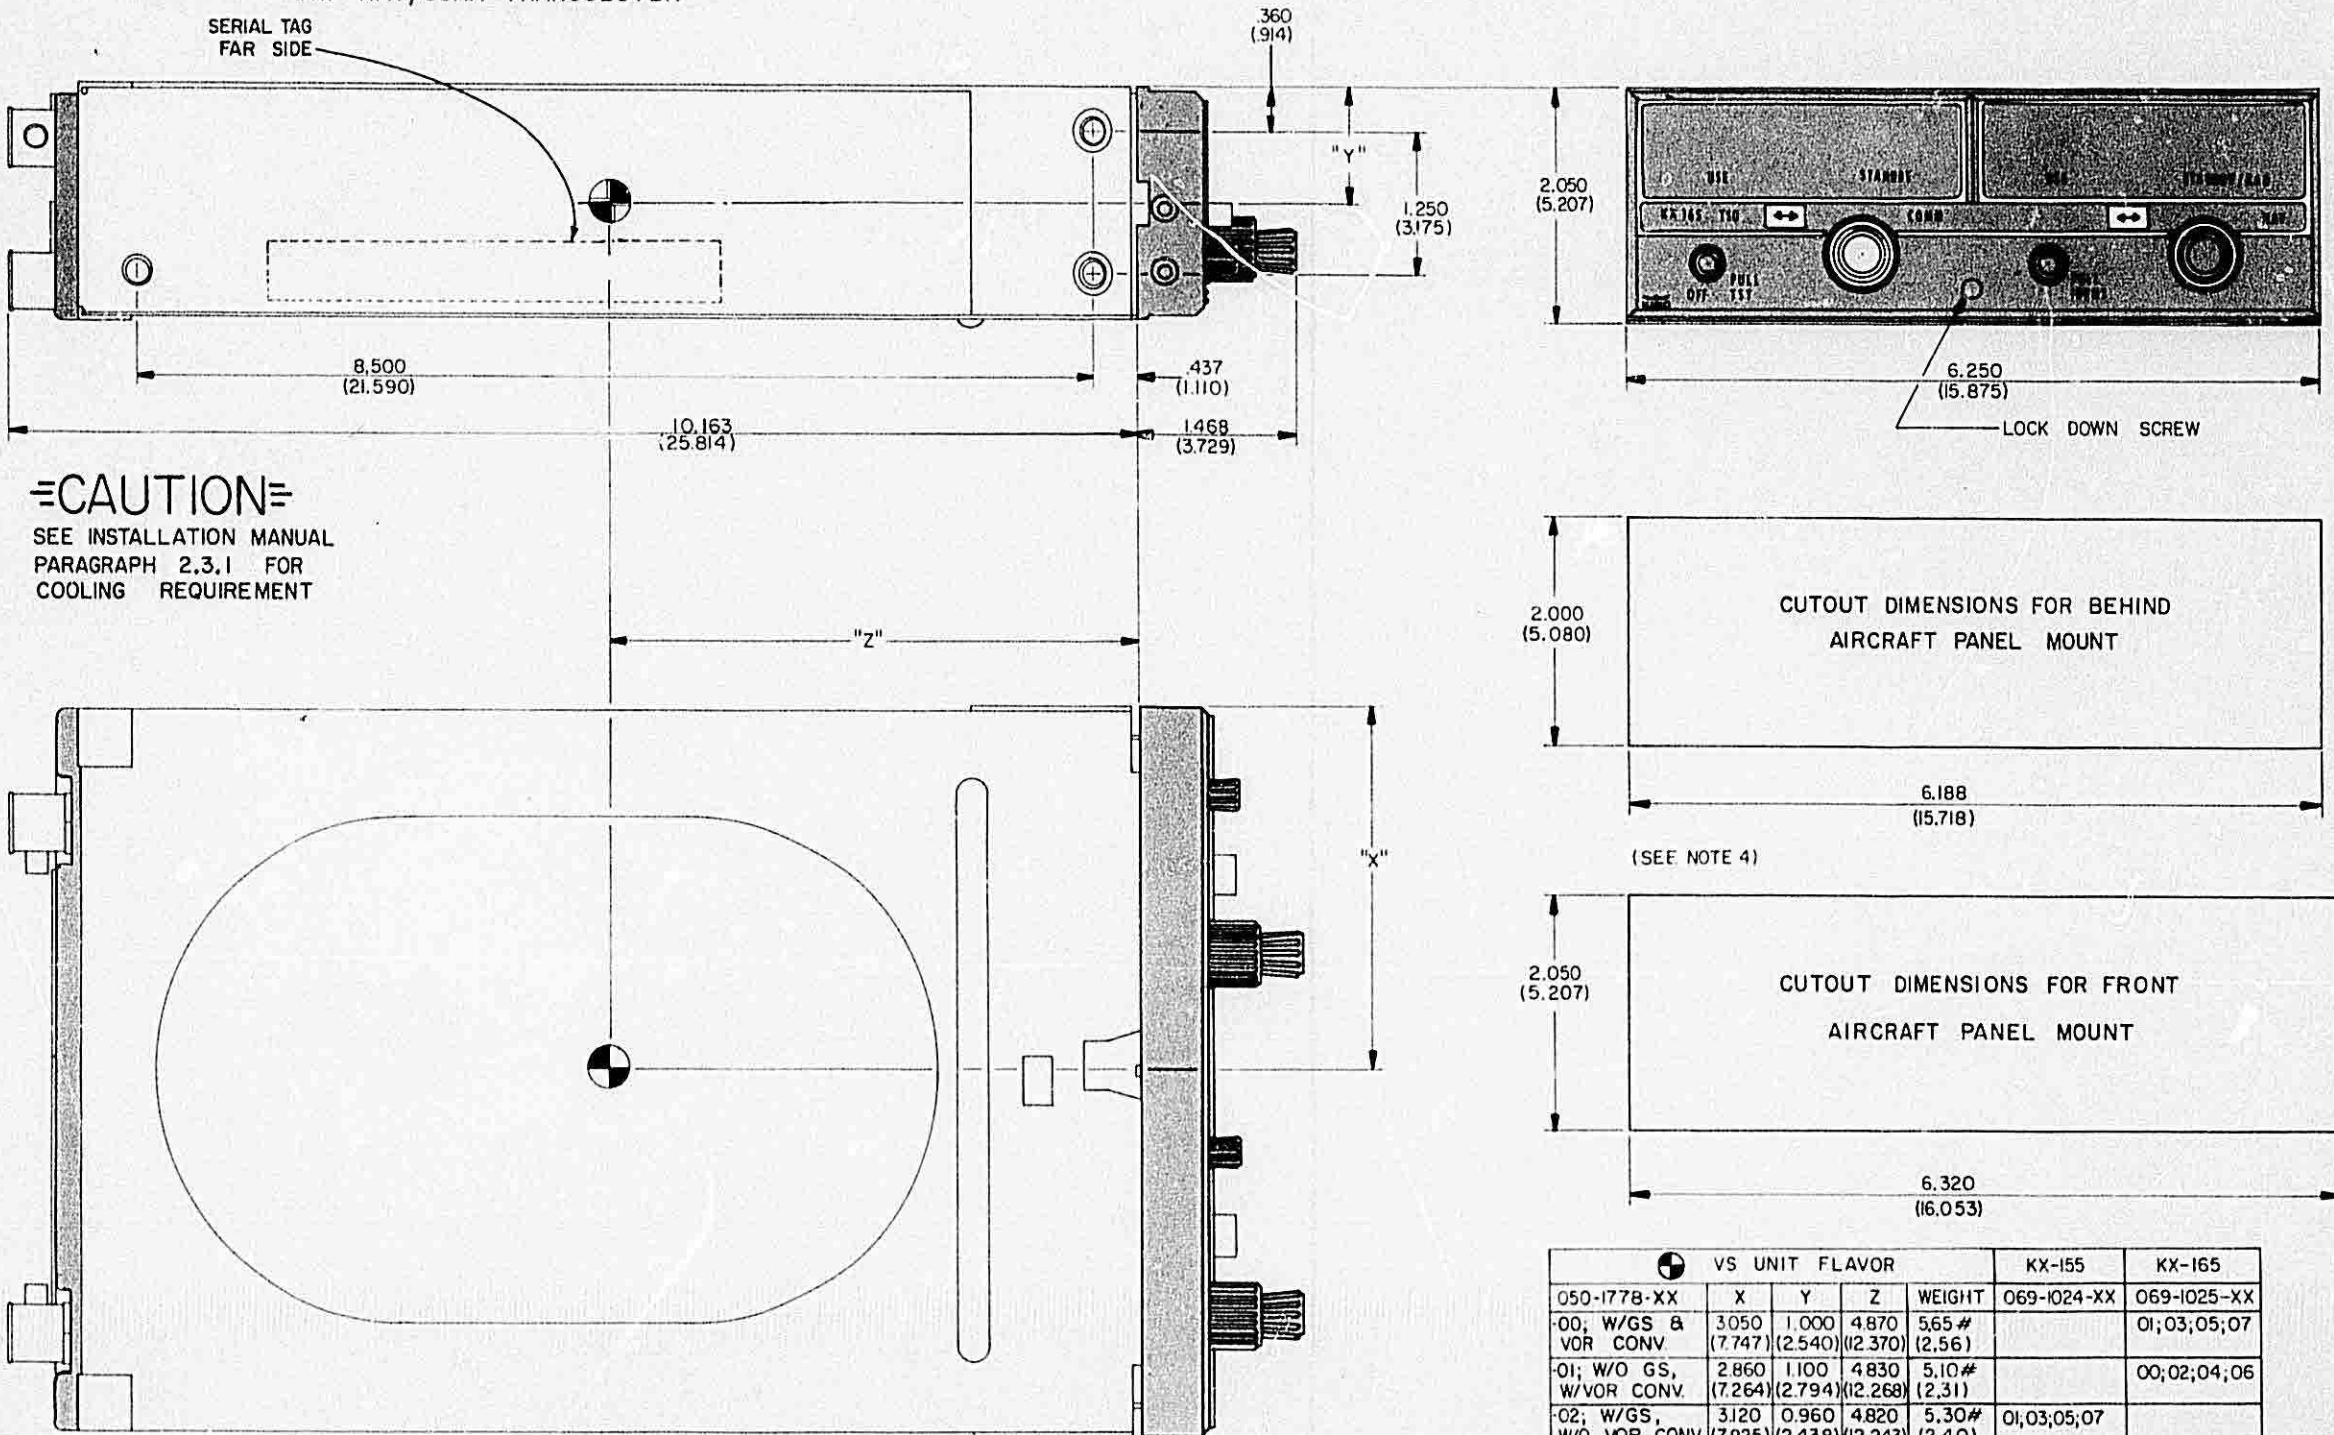

FIGURE 2-3 KX 155/165 OUTLINE AND MOUNTING DRAWING
- B. Refer to Figure 2-3 for the KX 155/165 mounting dimensions. Mark and drill the mounting holes.
- C. Secure the mounting rack to the instrument panel per Figure 2-3. The rear mounting bosses should be attached to the aircraft by means of support brackets.